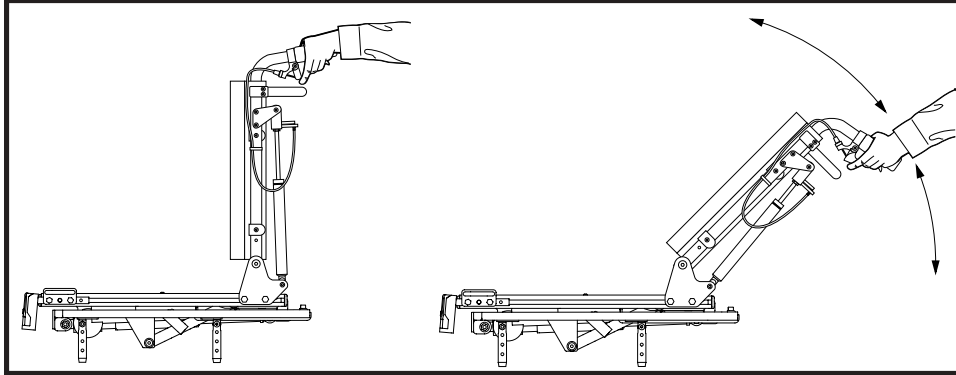

Figure 28. Manual Recline Angle Adjustment
2. Squeeze both of the recline release handles simultaneously, and position the seatback to the desired angle. See figure 28.